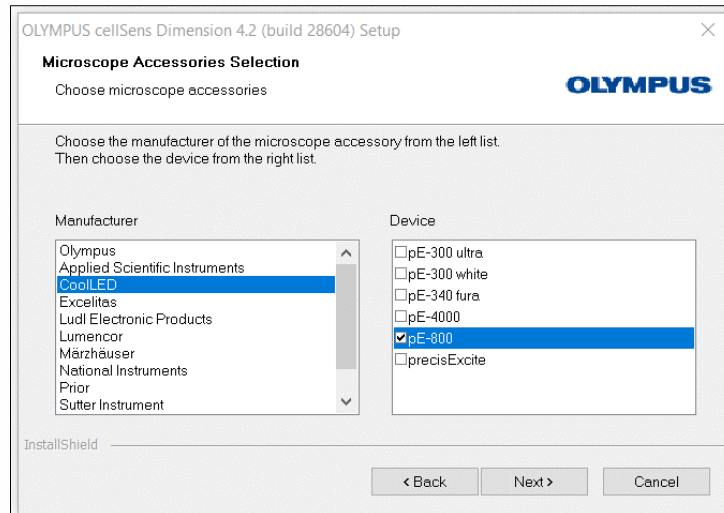

Figure 2: CoolLED devices listed in 'Microscope Accessories Selection'
1. During installation and setup of your configuration, when the 'Microscope Accessories Selection' screen appears (Figure 2), locate CoolLED in the list and select relevant Illumination System(s).